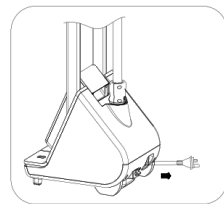
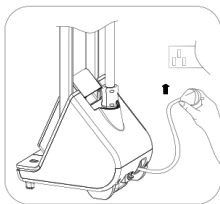

Fig. 12
Fig. 13
- Fill the water from the water filled cover,opne the cover of water tank, fill the water into water tank. Fig.12, Fig.13, Fig.14.